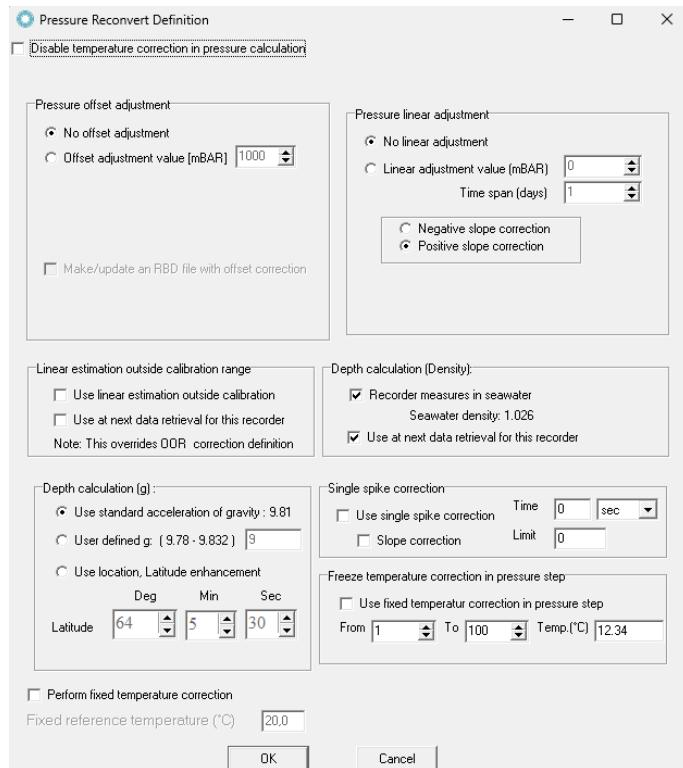

Figure 10.3: Pressure Reconversion menu
2. **Linear Adjustment:** Find the offset value after deployment by taking an average of in-air values. After determining the offset value, enter it in the Pressure linear adjustment window, shown in Figure 10.3. Input the duration of the measurement period in the ‘Time span (days)’. The offset will then be adjusted linearly over this period.
In the **From** field (see Figure 10.3), enter the measurement number when the sensor hit the water, and in the **To** field, enter the number of the measurement when the temperature became stabilized. The temperature value of the latter measurement is entered in the **Temp** field. This fixed value is then used to correct the pressure value.